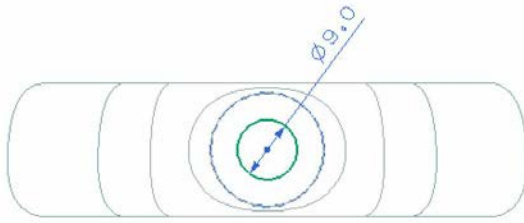

Figure 11-60 Sketch drawn for the eleventh feature
1. Create the sketch for the eleventh feature by selecting the bounded surface created earlier as the sketching plane, refer to Figure 11-60.